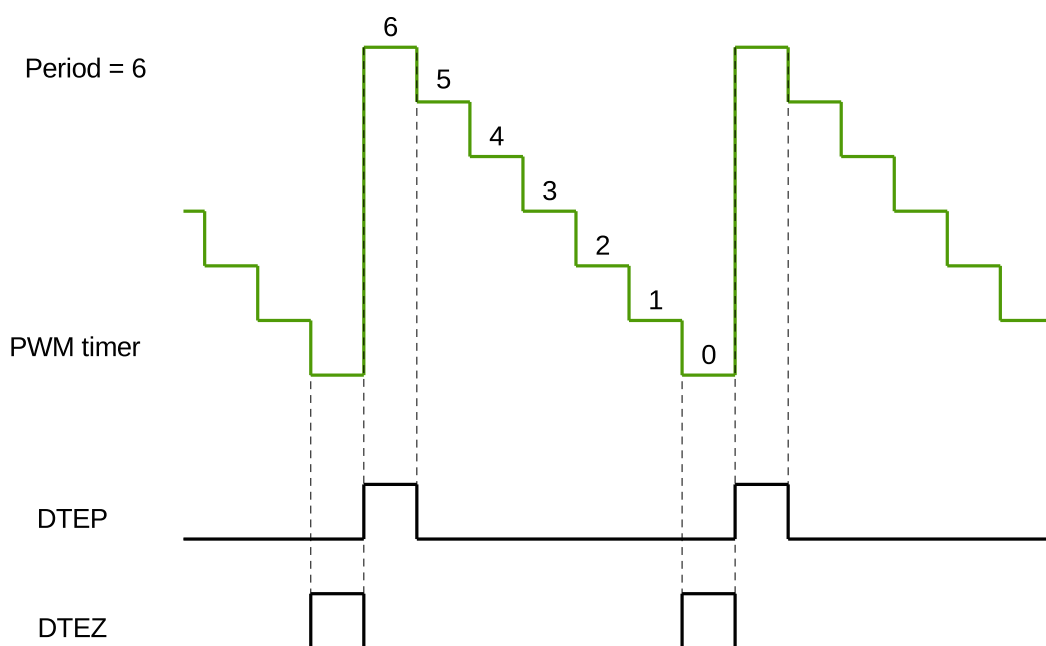

Figure 36.3-12. DTEP and DTEZ Generation in Count-Down Mode
2. DTEP and DTEZ do not happen simultaneously. When the PWM timer is in count-down mode, DTEZ will always happen one cycle earlier than DTEP, as demonstrated in Figure 36.3-12, so their action on PWM signals will not interrupt each other. When the PWM timer is in count-up-down mode, DTEZ will not occur.